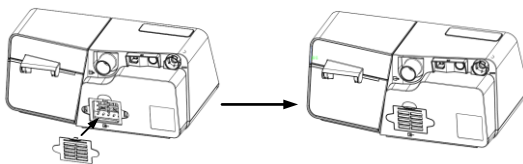

Fig. 18-5
(2) Install the filter cap containing the air filter to the device, as shown in Fig. 18-5.